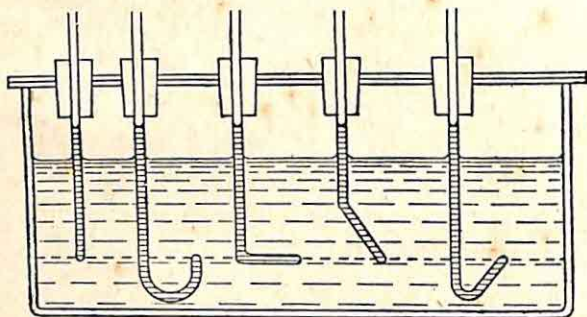

FIG. 106.
**Apparatus :** Several lengths of glass tubing (6 mm.), bent and mounted, as shown, through corks fixed in a strip of ply-wood (Fig. 106), glass tank containing water, pipette, beaker containing paraffin oil.
**Apparatus:** Several lengths of glass tubing (6 mm.), bent and mounted, as shown, through corks fixed in a strip of ply-wood (Fig. 106), glass tank containing water, pipette, beaker containing paraffin oil.